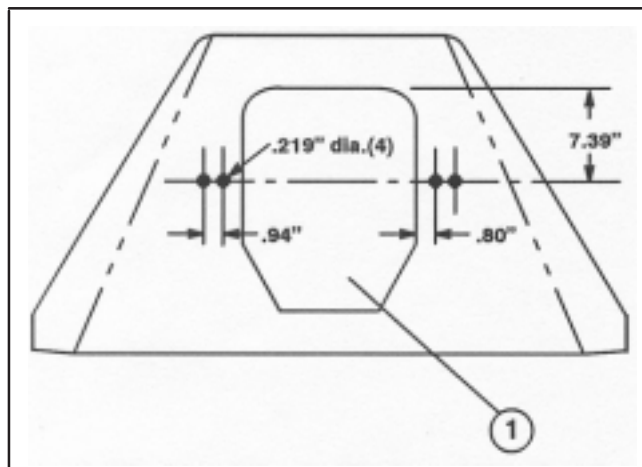

Figure 5
Note: On machines with serial numbers prior to 20201, switch strap mounting holes in floor plate are not provided. Use the dimensions shown in figure 5 to locate, mark and drill (2) .219" dia. holes in floor plate, on each side of opening.